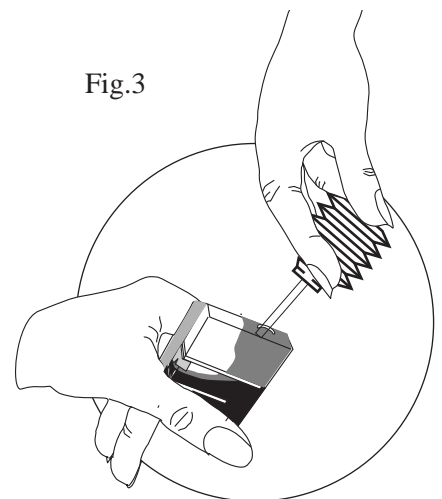

Fig.3
Continue dispensing ink until the liquid chamber is filled to just below the vent hole that you drilled in the top surface (See Fig. 3).
7. Very slowly squeeze the dispenser bottle so that the ink flows through the foam sponge chamber and into the liquid chamber. Continue dispensing ink until the liquid chambers are filled to just below the vent hole that you drilled in the top surface (See Fig. 3).